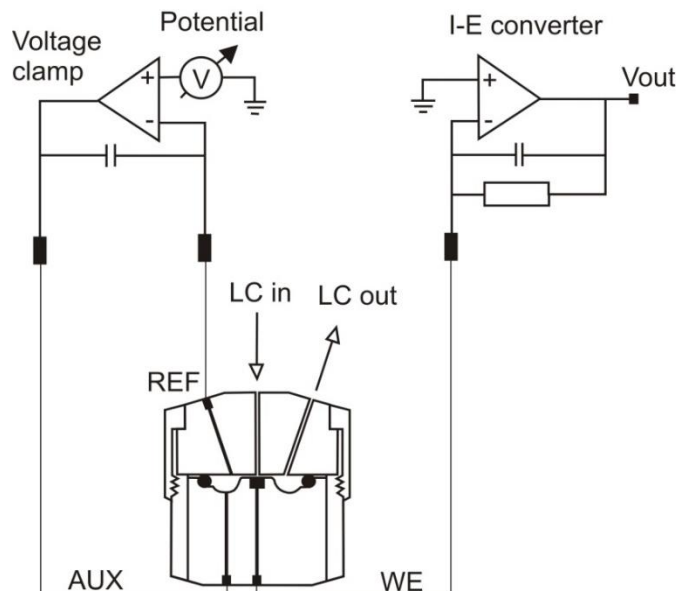

Fig. 10. Schematic representation of an electrochemical cell with a three-electrode configuration.
The circuitry of the DECADE (E)lite detector is designed for operation with electrochemical flow cells with a three-electrode configuration (Fig. 10). The working potential is set between the working electrode (WE) and the auxiliary electrode (AUX). The AUX is kept at a precisely defined reference electrode (REF) potential by means of the so-called voltage clamp. This is an electronic feedback circuit that compensates for polarization effects at the electrodes.